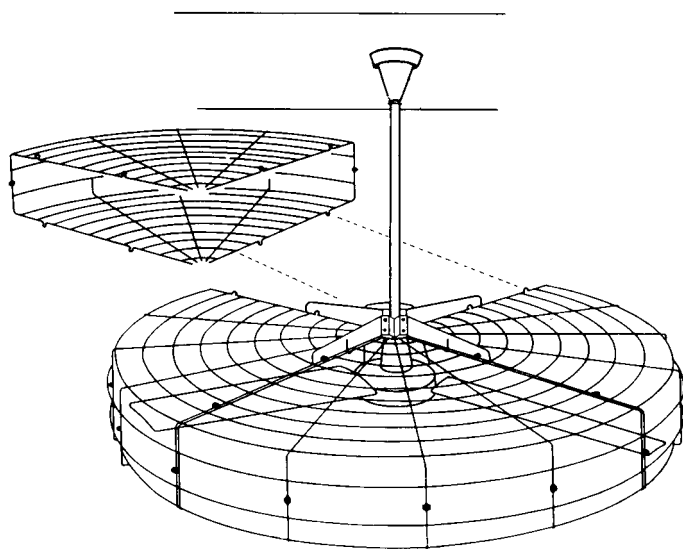

Figure 8 - Install Final Quarter
6. Install last quarter section of fan guard as in item two above and attach guard to clamp. (See Figure 8)